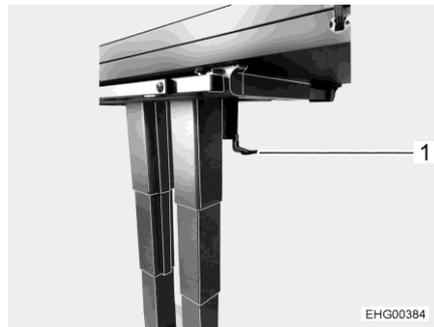

Fig. 93 Table, underside
- Fold down the catch lever (Fig. 93,2).